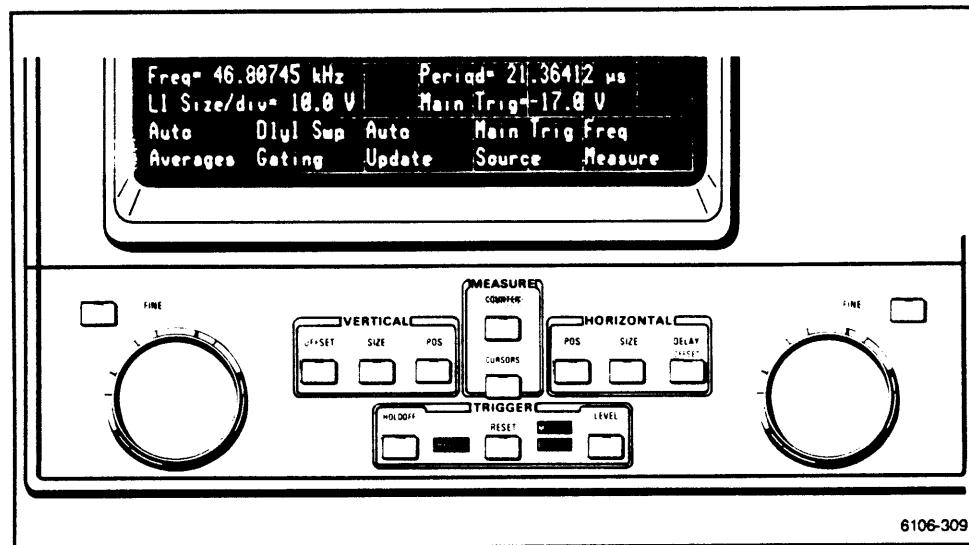

Figure 2-110. Counter/Timer menu with **Dly1 Swp** gating selected.
2. Using the COUNTER menu, touch *Gating* to select **Dly1 Swp** as the gating type. (See Fig. 2-110.)